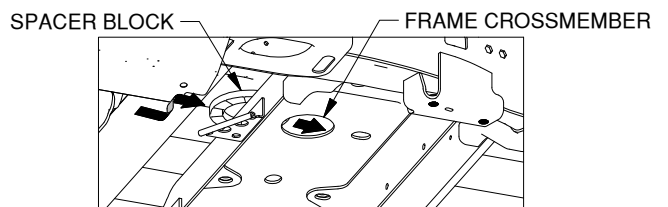

FIGURE B1: Looking up at bed from forward of the driver side tire.
1. **Place spacer block.** Position the plastic spacer block between the frame cross member and the bed as shown. See Figure B1. Center the hole in the spacer block over the hole in the frame.